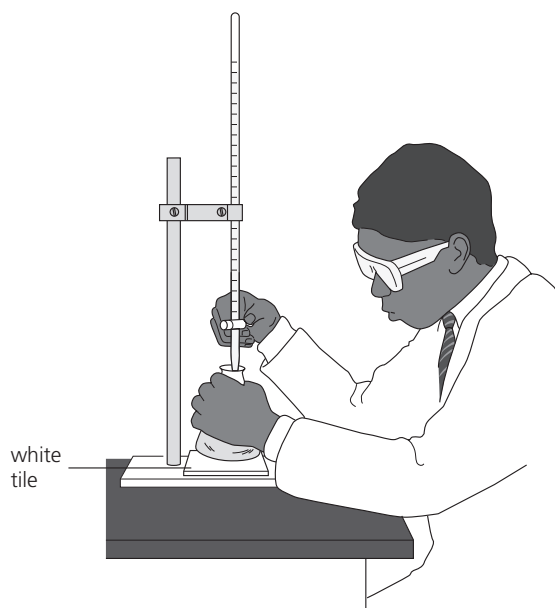

Figure 2
- 5 Slowly add the acid from the burette, in small quantities – usually no more than  $0.5 \text{ cm}^3$  at a time (Figure 2). Swirl the contents of the flask after each addition of acid to ensure thorough mixing.